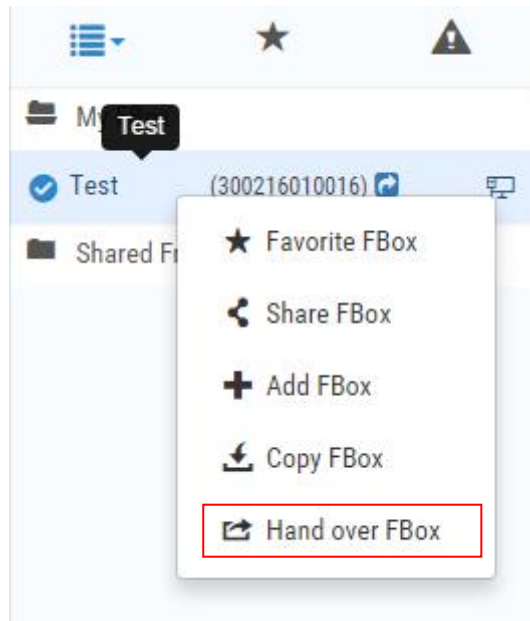

Fig. 4.5-18 Hand over FBox
- (1) After selecting the FBox device to be handed over and clicking the right mouse button in the FBox device list, a shortcut menu will pop up, as shown in Fig. 4.5-18.